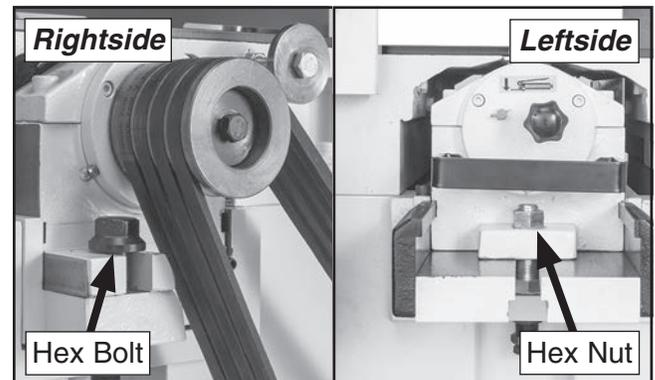

Figure 50. Location of lower cutterhead hex bolt and hex nut.
5. Loosen hex bolt and hex nut (see **Figure 50**) that secure lower cutterhead to carriage.